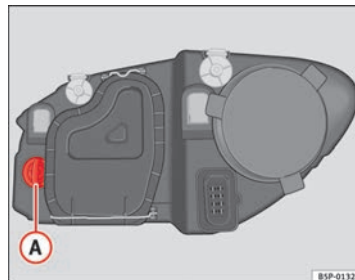

Fig. 189 Turn signal bulb
- Turn bulb holder ⇒ Fig. 189 Ⓐ to the left and pull.